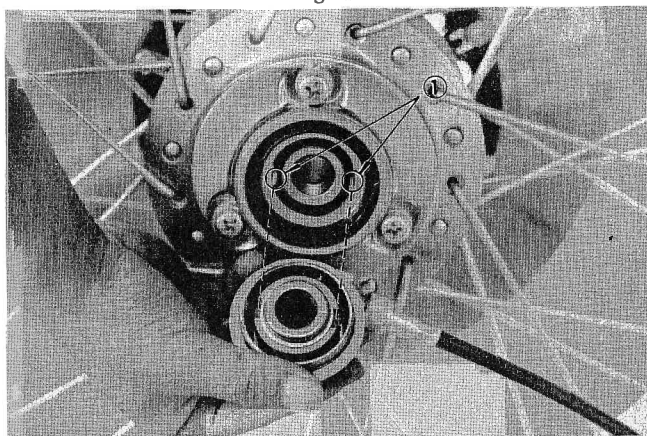

Fig. 12
8. Install the speedometer cable assembly (n-1) on the left side of the front wheel. (Fig. 12)